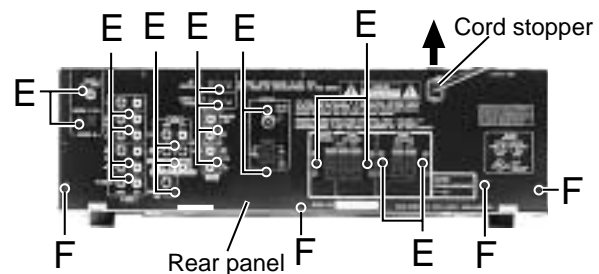

Fig.4
■ Removing the rear panel (See Fig.4)